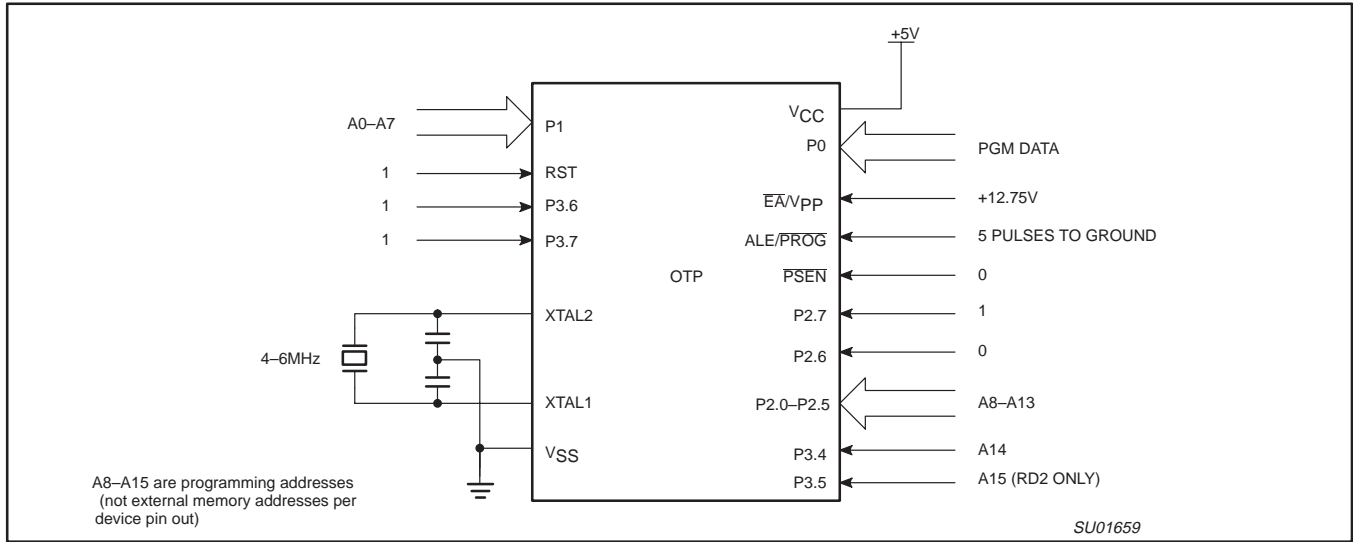
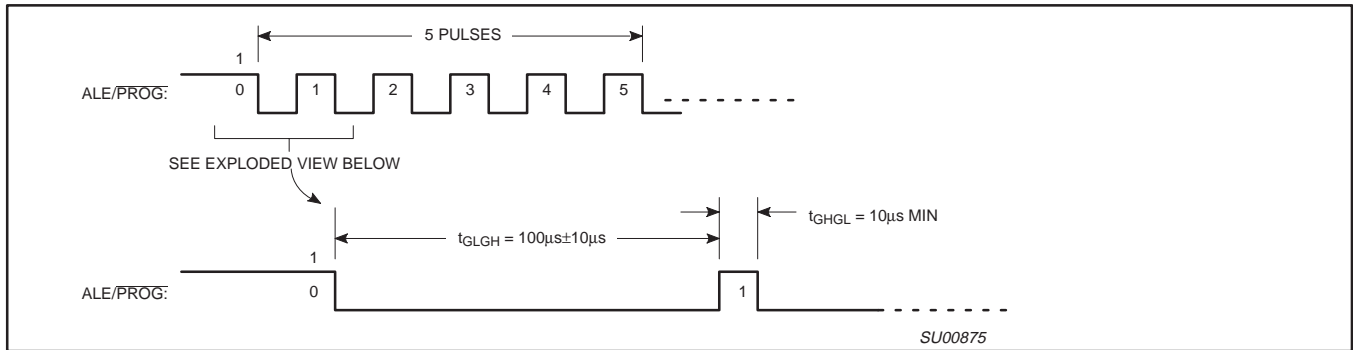
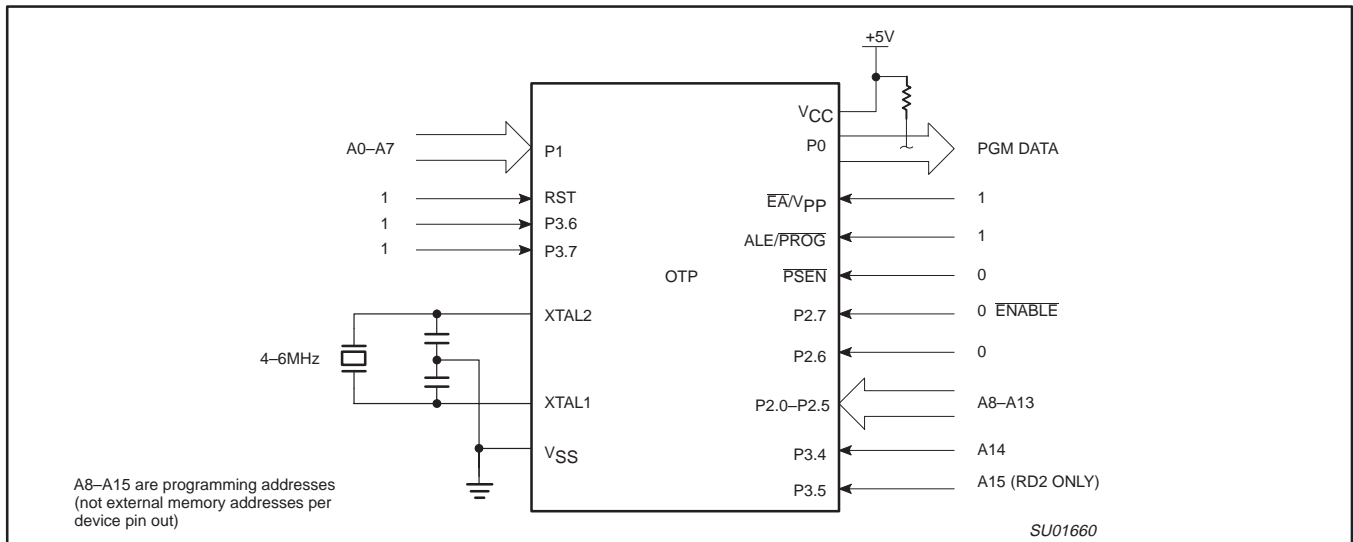

Figure 47. Programming Configuration
Figure 48. PROG Waveform
Figure 49. Program Verification
Table 8 shows the logic levels for reading the signature byte, and for programming the program memory, the encryption table, and the security bits. The circuit configuration and waveforms for quick-pulse programming are shown in Figures 47 and 48. Figure 49 shows the circuit configuration for normal program memory verification.
The setup for microcontroller quick-pulse programming is shown in Figure 47. Note that the device is running with a 4 to 6MHz oscillator. The reason the oscillator needs to be running is that the device is executing internal address and program data transfers.
The address of the EPROM location to be programmed is applied to ports 1 and 2, as shown in Figure 47. The code byte to be programmed into that location is applied to port 0. RST, \overline{PSEN} and pins of ports 2 and 3 specified in Table 8 are held at the 'Program Code Data' levels indicated in Table 8. The ALE/PROG is pulsed low 5 times as shown in Figure 48.
If security bits 2 and 3 have not been programmed, the on-chip program memory can be read out for program verification. The address of the program memory locations to be read is applied to ports 1 and 2 as shown in Figure 49. The other pins are held at the 'Verify Code Data' levels indicated in Table 8. The contents of the address location will be emitted on port 0. External pull-ups are required on port 0 for this operation.
- * FOR PROGRAMMING CONFIGURATION SEE FIGURE 47. FOR VERIFICATION CONDITIONS SEE FIGURE 49.